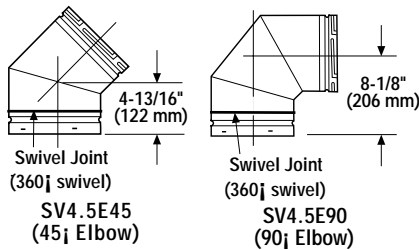

Figure 18
H. Change vent direction to horizontal/inclined run - At transition from or to a horizontal/inclined run, install the SV4.5E45 and SV4.5E90 elbows in the same manner as the straight vent sections. The elbows feature a twist section to allow them to be routed about the center axis of their initial collar section to align with the required direction of the next vent run element. **Twist elbow sections in a clockwise direction only so as to avoid the possibility of unlocking any of the previously connected vent sections.** See **Figure 18**.
Analyze the vent routing and determine the types and quantities of sections required 4-1/2" (114 mm), 10-1/2" (267 mm), 22-1/2" (572 mm), 34-1/2" (876 mm) and 46-1/2" (1181 mm) net section lengths are available. Plan the vent lengths so that a joint does not occur at the intersection of ceiling or roof joists. Make allowances for elbows as indicated in Figure 18 on page 13.
J. Change vent direction - At transition from or to a horizontal/inclined run, install the SV4.5E45 and SV4.5E90 elbows in the same manner as the straight vent sections. The elbows feature a twist section to allow them to be routed about the center axis of their initial collar section to align with the required direction of the next vent run element. **Twist elbow sections in a clockwise direction only so as to avoid the possibility of unlocking any of the previously connected vent sections.** See *Figure 18* on page 13.